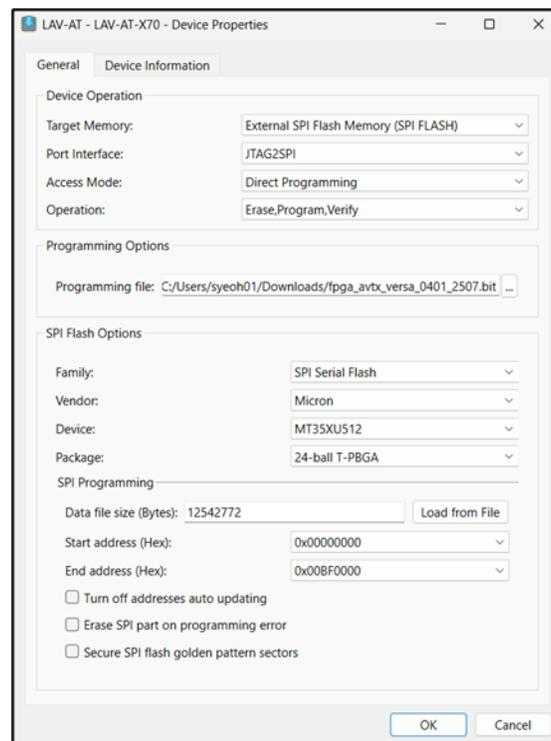

Figure 6.28. Load Bitstream File
- Select the appropriate SPI flash configuration to flash directly to external SPI flash. Refer to Figure 6.28 for the expected settings. Click the ... button under the file name bar and choose the bitstream file to program.